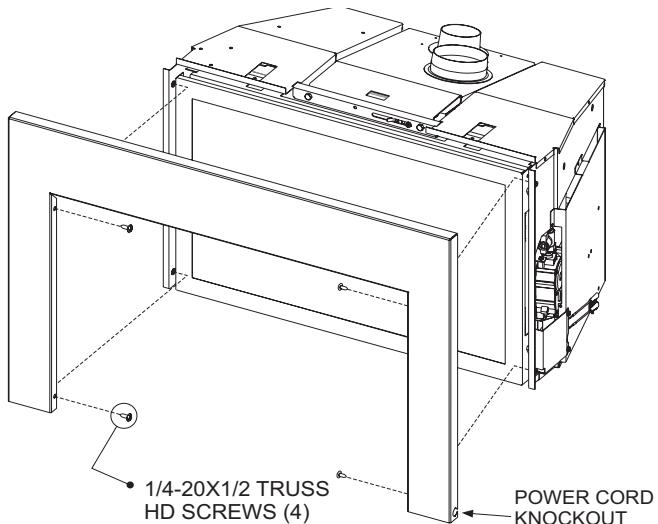

Figure 8
- Align the mating holes and install four 1/4 - 20 X 1/2 inch Phillips Pan Head screws to secure. **See Figure 8.**